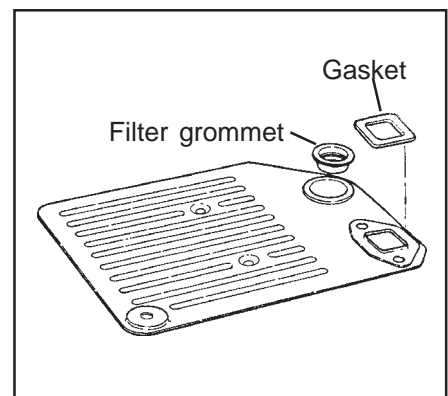

Figure 2
STEP 22. Make sure rubber grommet is installed in the new filter supplied with kit. Install the cork filter gasket on filter using a dab of grease to hold it in place (See Fig. 2.). Coat the filter grommet with clean ATF and install filter on valve body. Push the filter straight on to avoid damaging the rubber grommet. Install (3) M6x16 (0.63") bolts and torque to **80-100**